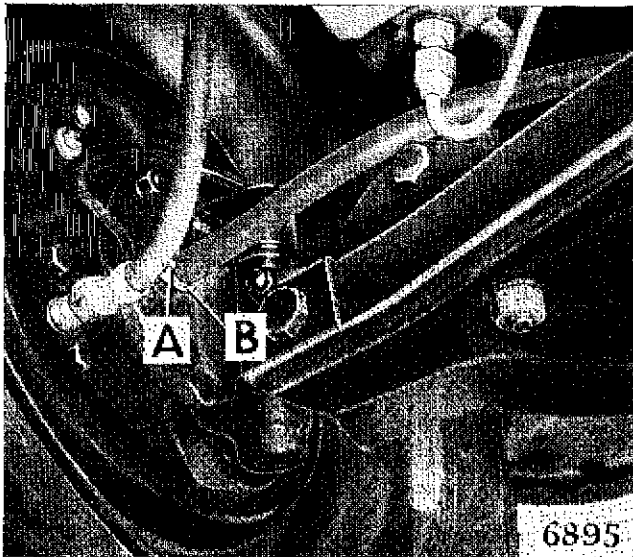

Fig. 5. Speedometer drive to left-hand front wheel
5. Withdraw the speedometer cable from the inside face of the left hand stub axle by withdrawing a screw and forked plate, taking care to collect the rubber washer positioned between the metal end of the outer casing and the stub axle. See Fig. 5.
SPEEDOMETER DRIVE (See Figs. 5 & 6)